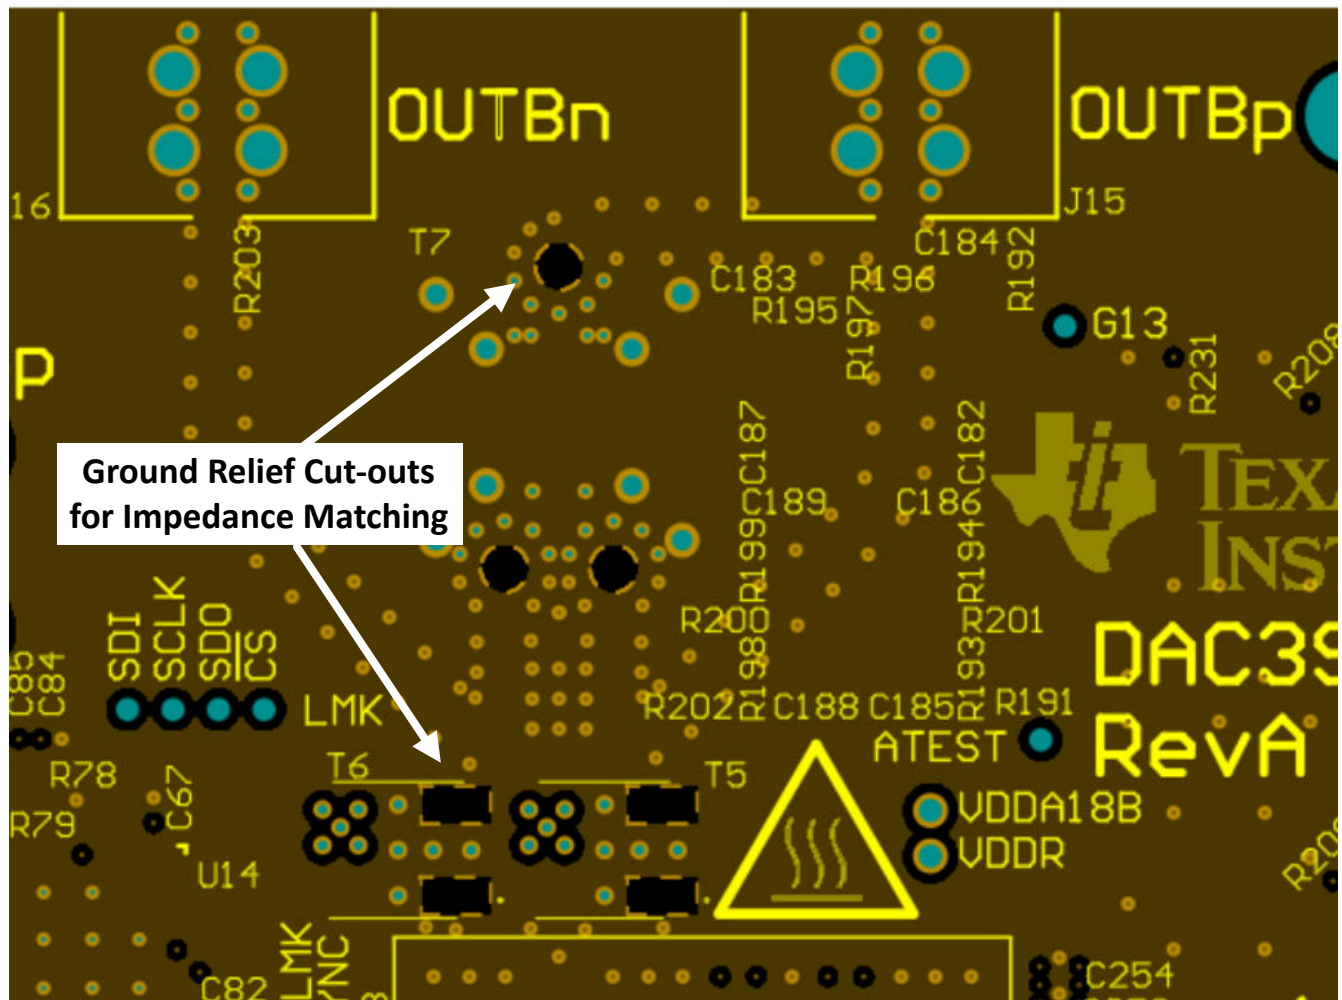
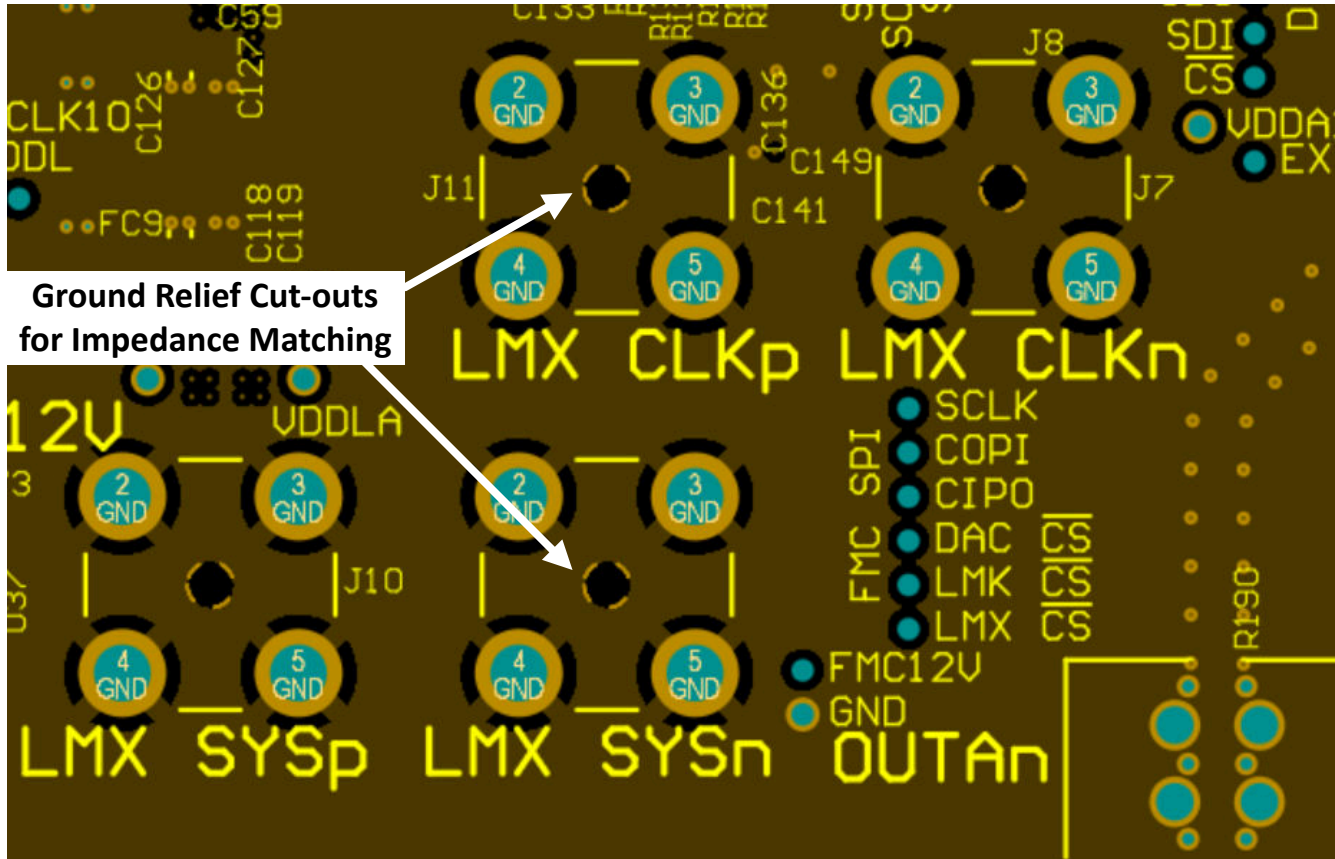

Figure 9-23. Ground Cut-outs Below Balun and Bias-T Pins
Figure 9-24. Ground Cut-out Below SMA Connector Center Pin
5. Incorporate any ground plane cutouts necessary at component landing pads, for example – SMA connectors, baluns, and so on, to avoid impedance discontinuities at these locations. Cut-outs below these landing pads on one or multiple ground planes to achieve a pad size or stackup height that achieves the needed 50Ω , single-ended impedance. See Figure 9-23 and Figure 9-24 as an examples.